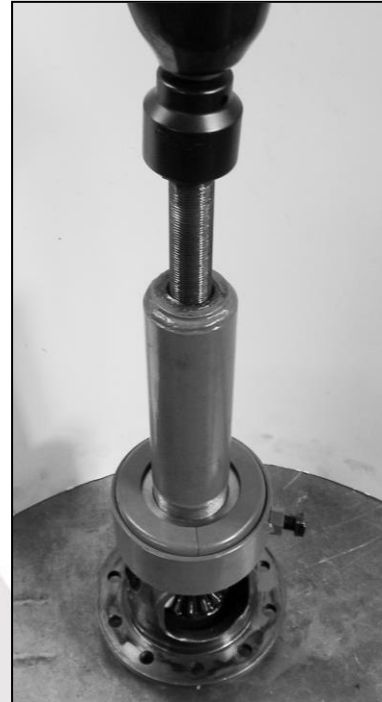

Figure 8.
- Remove the original bearings from the differential center using a bearing puller (Fig. 8.)